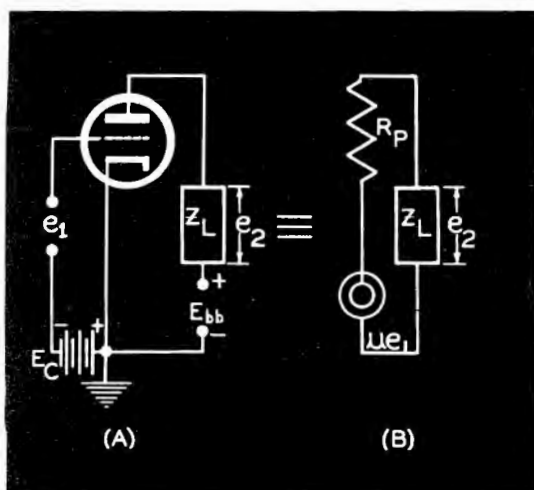

Figure 1
Figure 2 (left), a constant current circuit wherein the current $G_m E_1$ generated, flows into the plate resistance R_p of the actual tube and the external load impedance Z_L in parallel. Figure 3 (right), a constant current circuit equivalent to the constant [generated] voltage circuit shown in Figure 1 (B).